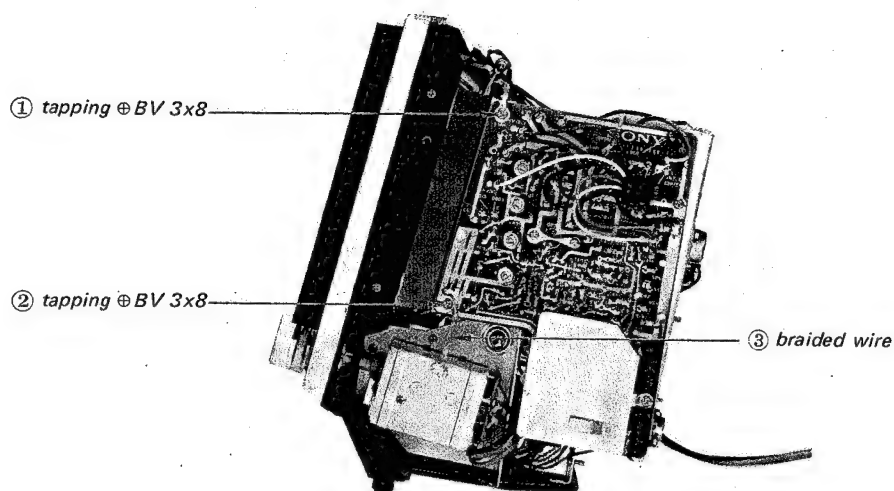

Fig. 4
1. Remove the two screws (① , ② in Fig. 4).
2. Unsolder the braided wire (③ in Fig. 4).